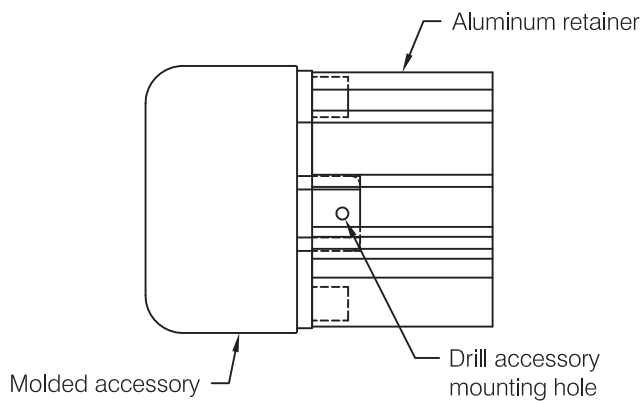

fig 3
**Step 5:** Insert molded accessories into end of retainer, press firmly to ensure molded part is seated squarely against the end of the retainer. Drill accessory mounting holes using the accessory as the template, see **fig 3**.